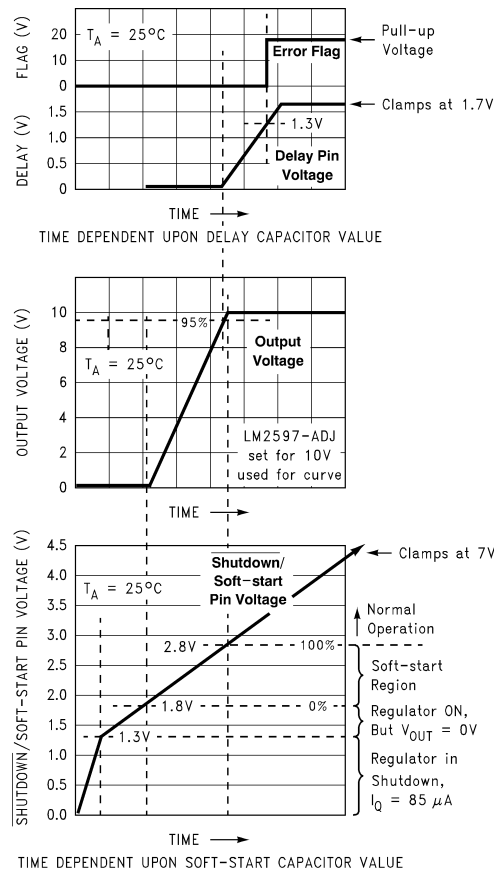
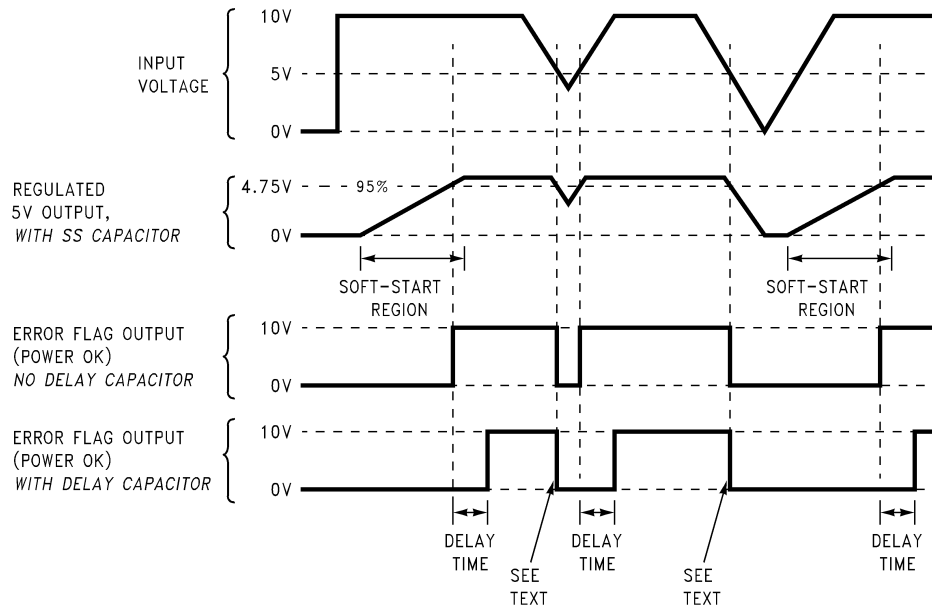

Figure 31. Soft-Start, Delay, Error, and Output
Figure 33. Timing Diagram for 5-V Output
A capacitor on this pin provides the regulator with a soft-start feature (slow start-up). When the DC input voltage is first applied to the regulator, or when the Shutdown/Soft-start pin is allowed to go high, a constant current (approximately 5 μ A) begins charging this capacitor). As the capacitor voltage rises, the regulator goes through four operating regions (see the bottom curve in Figure 31).
3. Soft-start Region – When the $\overline{SD/SS}$ pin voltage is between 1.8 V and 2.8 V (at 25°C), the regulator is in a soft-start condition. The switch (Pin 8) duty cycle initially starts out very low, with narrow pulses and gradually get wider as the capacitor $\overline{SD/SS}$ pin ramps up towards 2.8 V. As the duty cycle increases, the output voltage also increases at a controlled ramp up. See the center curve in Figure 31. The input supply current requirement also starts out at a low level for the narrow pulses and ramp up in a controlled manner. This is a very useful feature in some switcher topologies that require large start-up currents (such as the inverting configuration) which can load down the input power supply.
The lower curve shown in Figure 31 shows the soft-start region from 0% to 100%. This is not the duty cycle percentage, but the output voltage percentage. Also, the soft-start voltage range has a negative temperature coefficient associated with it. See the soft-start curve in Electrical Characteristics.
Provides delay for the error flag output. See the upper curve in Figure 31, and also refer to timing diagrams in Figure 33. A capacitor on this pin provides a time delay between the time the regulated output voltage (when it is increasing in value) reaches 95% of the nominal output voltage, and the time the error flag output goes high. A $3\text{-}\mu\text{A}$ constant current from the delay pin charges the delay capacitor resulting in a voltage ramp. When this voltage reaches a threshold of approximately 1.3 V, the open collector error flag output (or power OK) goes high. This signal can be used to indicate that the regulated output has reached the correct voltage and has stabilized.